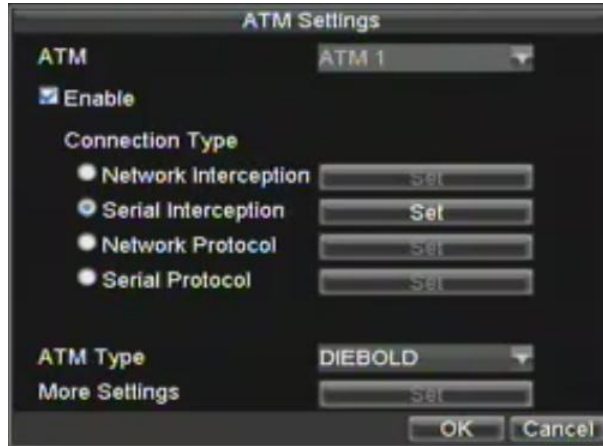

Figure 9. ATM Settings Menu
1. Enter **ATM Setting** menu, shown in Figure 9. Click Menu > Setting > ATM to enter ATM Settings menu.
3. ATM Type Settings, shown in Figure 9. The ATM type can be set to **DIEBOLD**, **DRS918** or **NCR_2**, or customized by clicking the **Set** button beside **More Settings** to enter the ATM Type Settings menu.